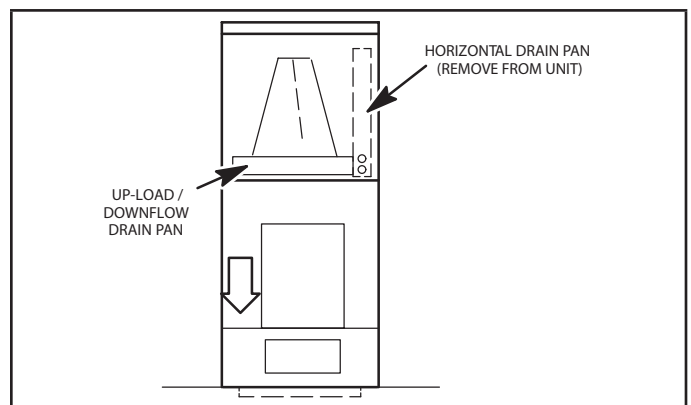

FIGURE 13. Downflow Discharge Position
- 2 - For best efficiency and air flow, remove the horizontal drain pan from the units in downflow positions as illustrated in figure 13.
- 3 - Rotate cabinet 180° from the upright position. See figure 13. You may need to first remove the blower assembly to lighten the cabinet for lifting.